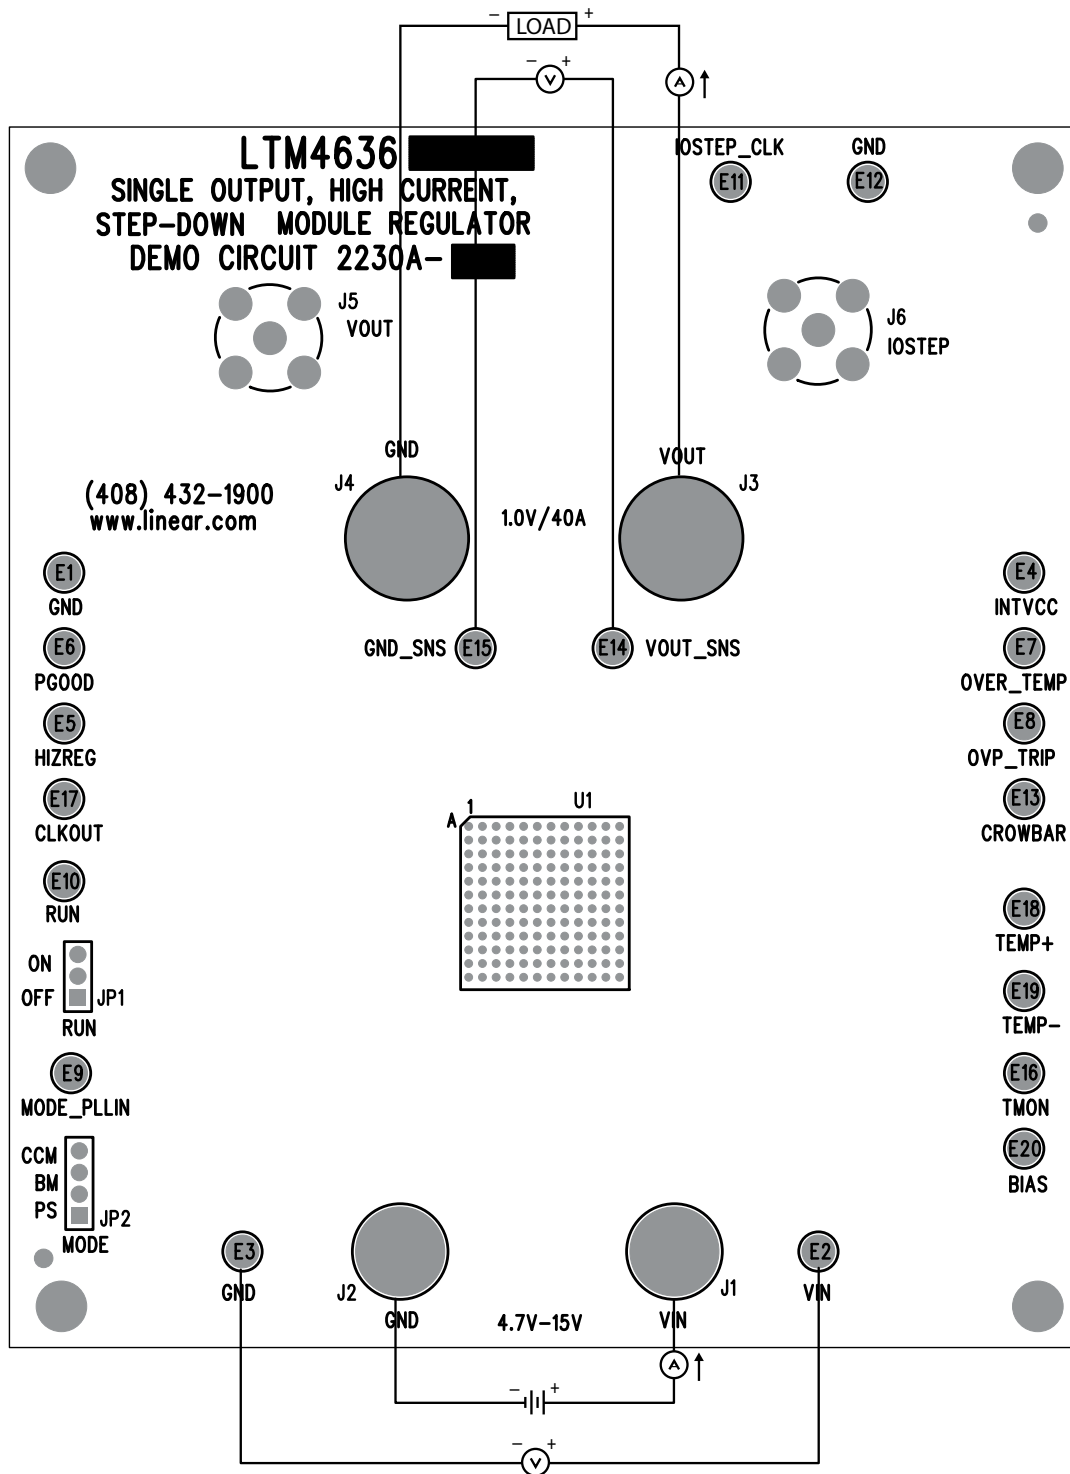

Figure 1. Proper Measurement Equipment Setup
Demonstration circuit 2230A-B is an easy way to evaluate the performance of the LTM4636-1EY. Please refer to Figure 1 for proper measurement equipment setup and follow the procedure below.
2. With power off, connect the input power supply, load and meters as shown in Figure 1. Preset the load to 0A and V_{IN} supply to 12V.